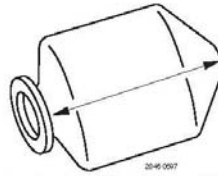

Figure 3 – Force all air out of bladder
- A. Place bladder on clean surface with opening to one end and flatten to force air out. Pull ends out flat (see Figure 3).